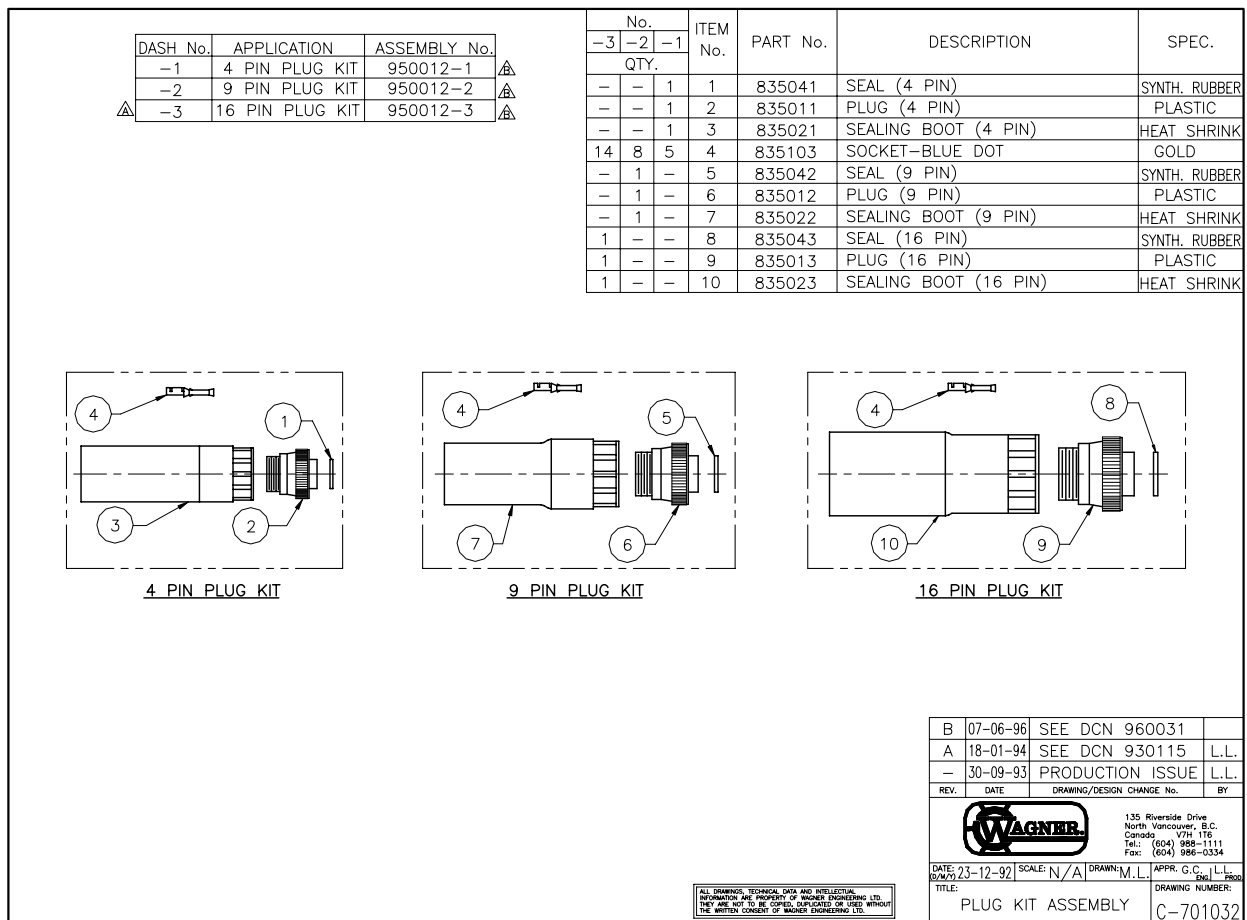

Figure 2 – Plug Kit Assembly
- a) Please refer to Figure 2 for parts breakdown and kit sizes.